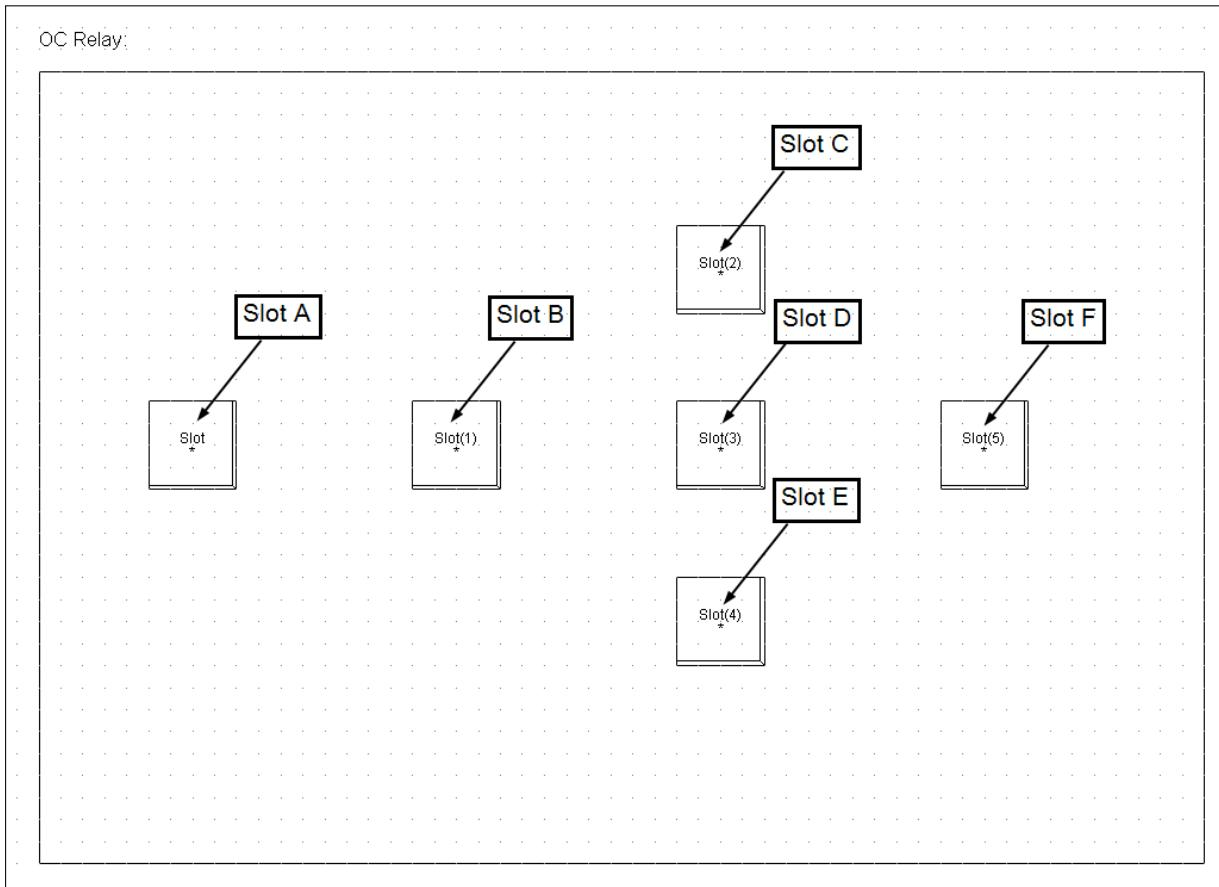

Figure 33.18.1: Arrangement of slots
- Select the slot icon from the drawing toolbox located on the right side of the screen and place 6 slots within the block definitions arranged as illustrated in Figure 33.18.1 below.